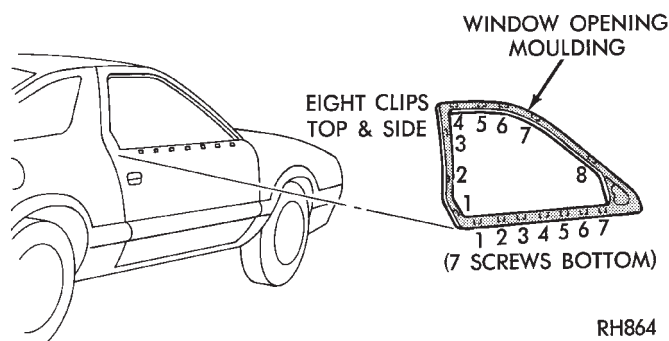

Fig. 21 Window Opening Moulding
- (1) Remove door trim panel.
- (2) Remove door glass.
- (3) Remove side view mirror.
- (4) Disengage clips holding door glass opening moulding to the door frame (Fig. 21).